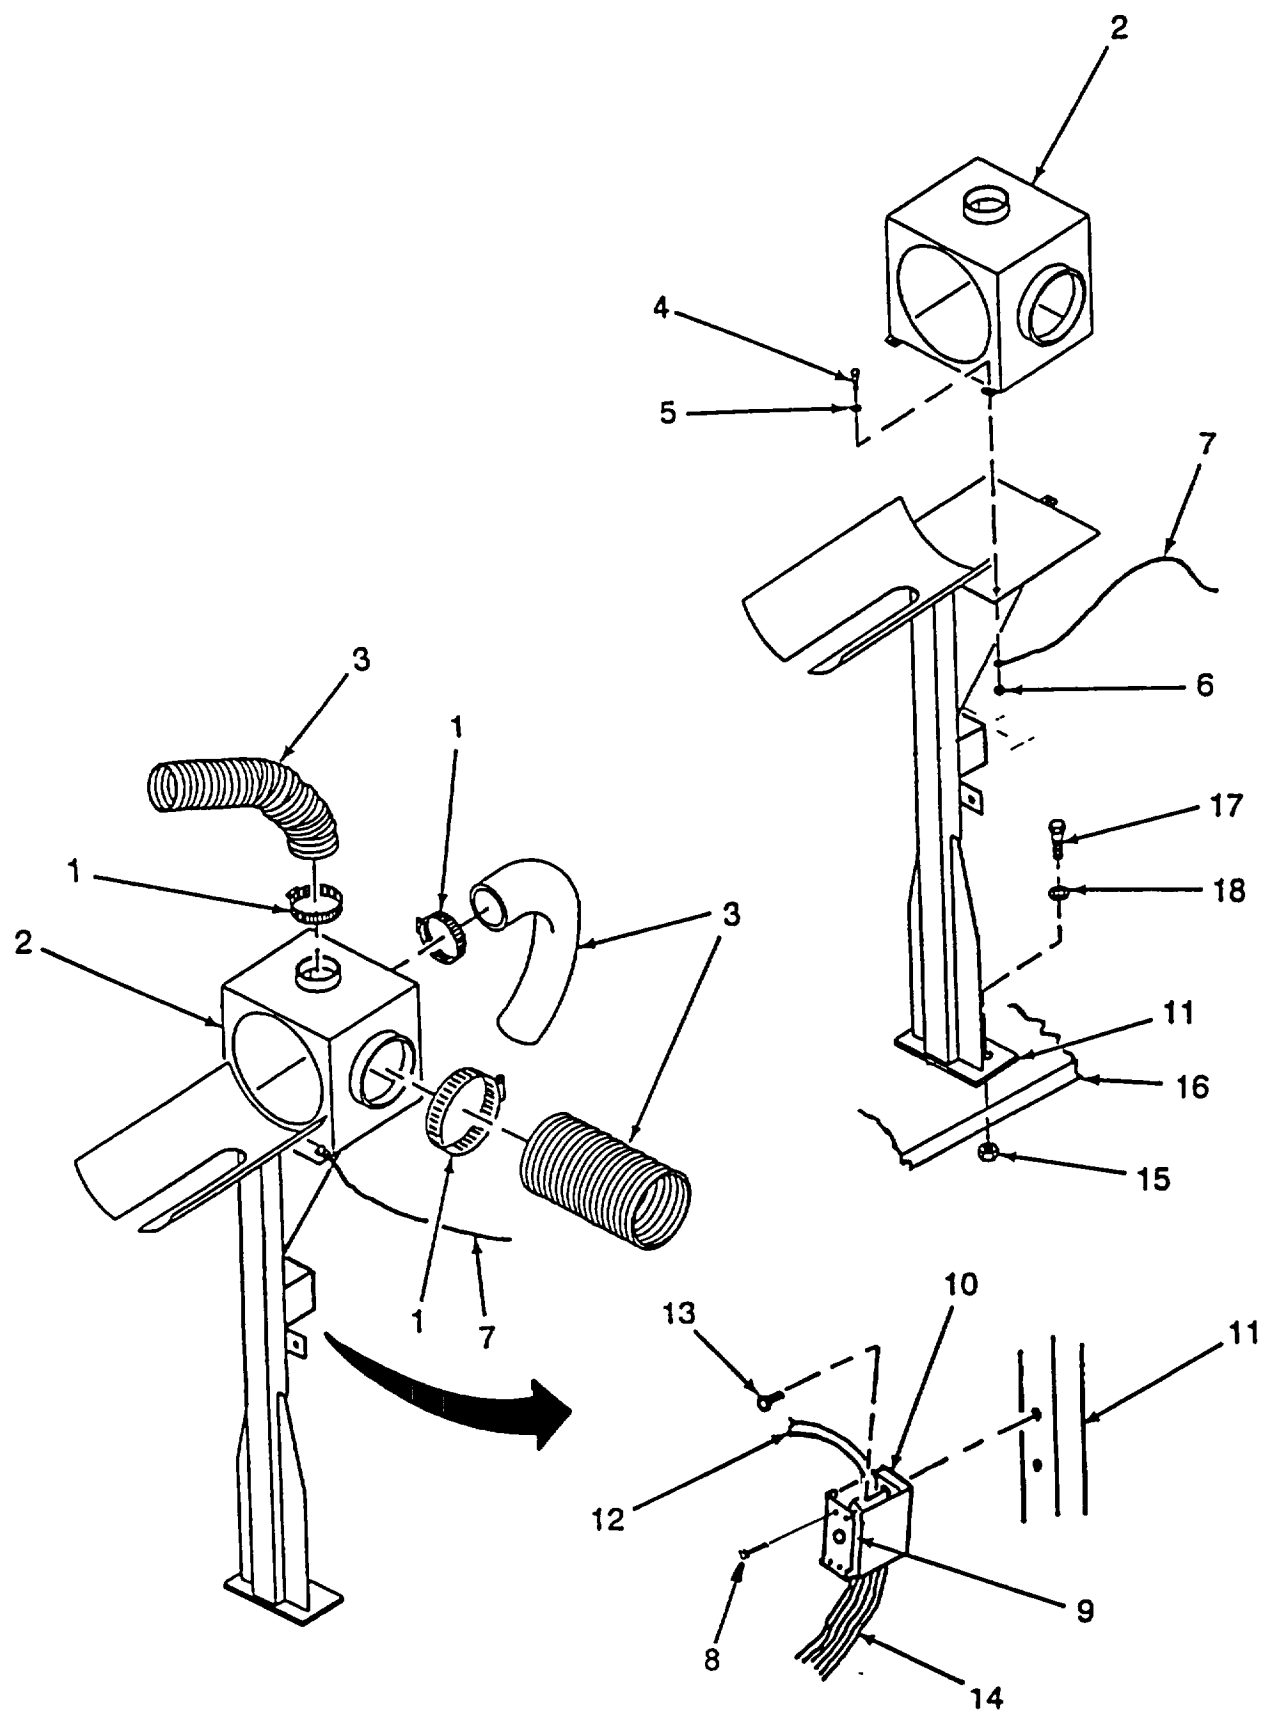

Figure 4-48. Heater Mounting Assembly
a. Removal. (Refer to Figure 4-48).
- (1) Loosen three clamps (1) on heater plenum (2) and remove heater ducts (3) (2) Remove three bolts (4), washers (5), and nuts (6) on heater plenum (2). Remove ground wire (7).
- (3) Remove four screws (8) and cover (9) from power distribution block (10) located on heater stand (11).
- (4) Remove positive cable (12) from power distribution block (10) Remove two self-tapping screws (13) holding power distribution block (10) to heater stand (11). Set power distribution block (10) aside with wires (14) attached.
- (5) Remove two locknuts (15) from bottom of skid (16) Remove two bolts (17), two washers (18) from heater stand (11). Remove heater stand (11) from skid (16).